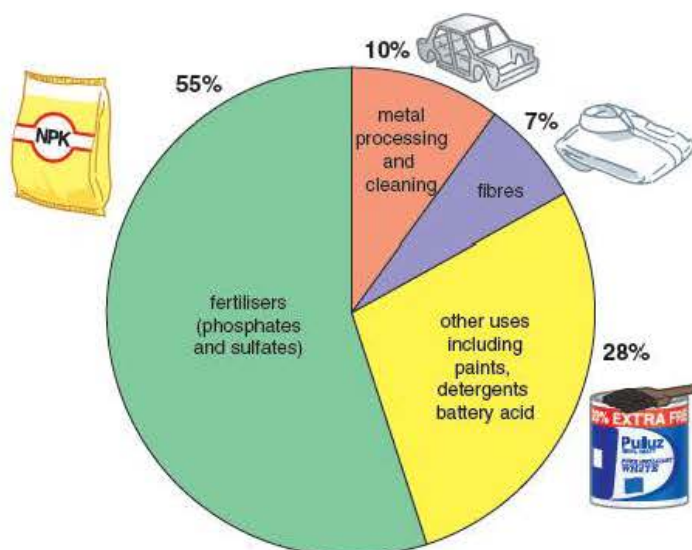

Figure 11.3 The uses of sulfuric acid.
Sulfuric acid is used to make hundreds of different compounds required in almost every industry (Figure 11.3). By far the largest amount of it is used to make fertilisers, particularly phosphate and sulfate fertilisers. Other important uses involve metal processing and cleaning, the production of fibres including paper and nylon, and the manufacture of paints and detergents.
- a) Use evidence from Figure 11.3 to explain what von Liebig meant by his statement.